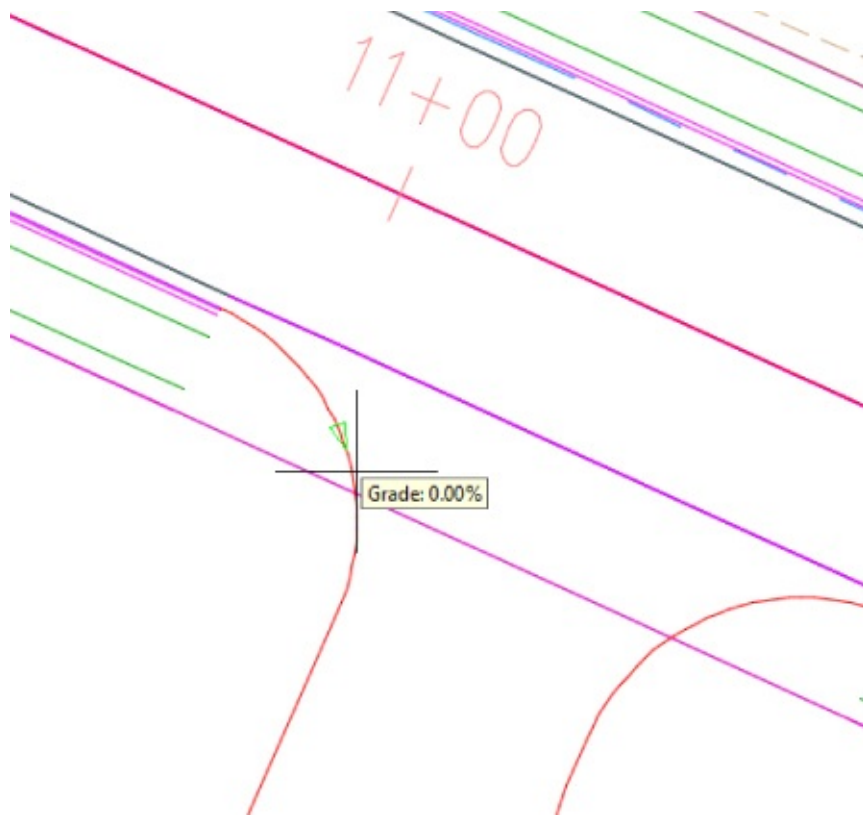

Figure 14.23 Editing the grade of a feature line with Quick Elevation Edit
- b. Position the cursor so that the triangular glyph is pointing toward the parking lot, as shown in Figure 14.23, and left-click.